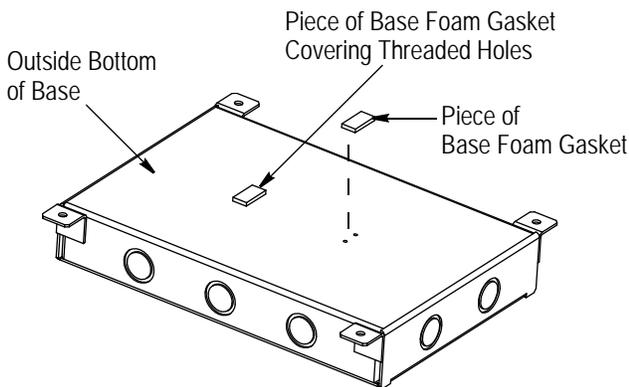

Figure 2
1. Cut two 25.4-mm [1-in.] (approximately) long pieces from the base (12.7 by 609-mm [.50 by 24-in.]) foam gasket. Remove the adhesive backing from the two pieces of foam gasket, and adhere them to the bottom of the base from the outside so that the four threaded holes in the base are covered. See Figure 2.